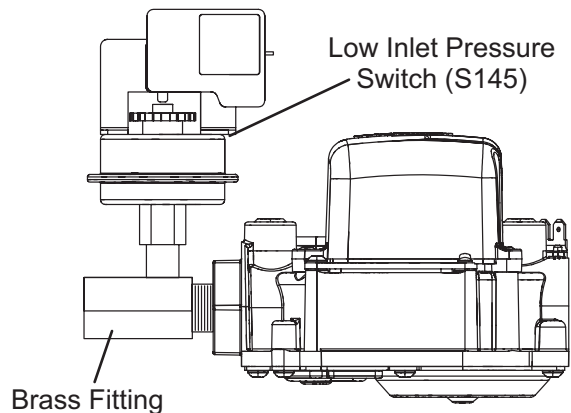

FIGURE 2
- 8 - Thread provided brass fitting to gas valve inlet until hand tight. Using properly sized wrench, tighten fitting 2 to 3 full turns being careful to position the side port to allow clearance for the pressure switch and harness. See figures 2 or 3.
NOTE - Some installations may require the pressure switch and fitting assembly to be positioned differently than shown in figure 2 and 3.